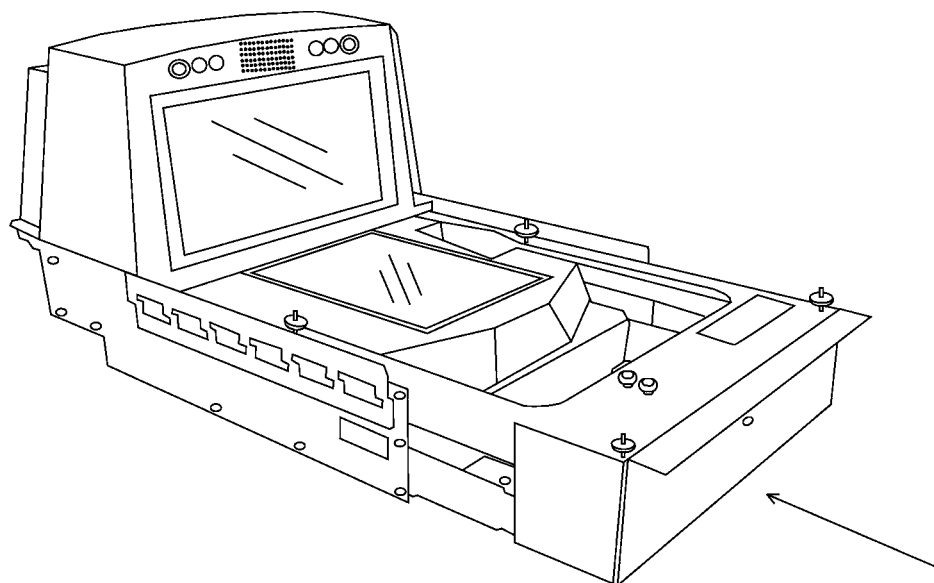

Figure 6.3-4
- (5) Insert the scale unit into the scanner and thread scale cable to rear of scanner housing. (See Figure 6.3-4.)